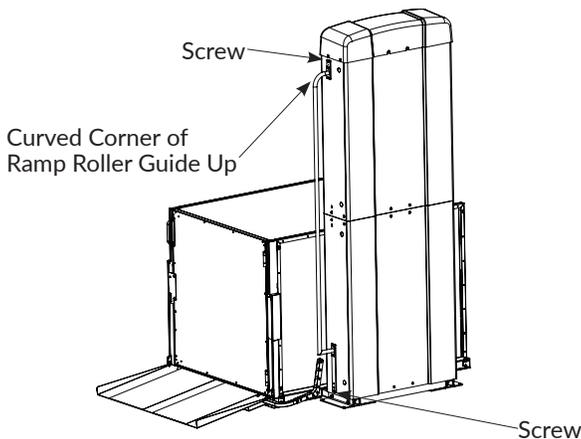

Figure 4-5
- Use the platform control box to move the carriage up or down to align the platform and carriage mounting holes. *See Figure 4-5.*